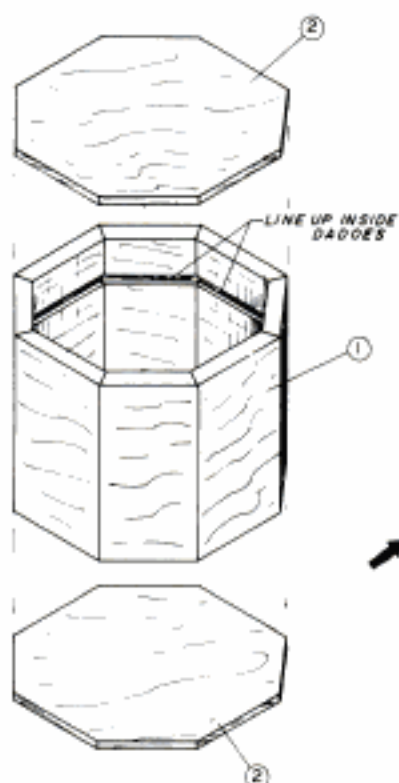

FIG. 3
**3.** Cut the top and bottom. Cut the octagonal top and bottom (part 2) slightly oversized. Sand the edges flush with the box after you've assembled it. Glue the top and bottom to the box, as shown in figure 3, page 97.